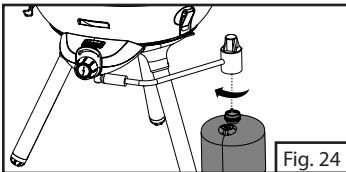

Fig. 24
2. Disconnect propane cylinder from regulator by turning clockwise until release. Replace protective cap on cylinder. (Fig. 24)